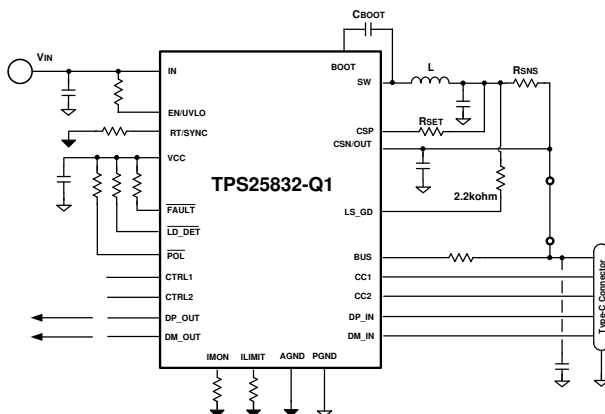
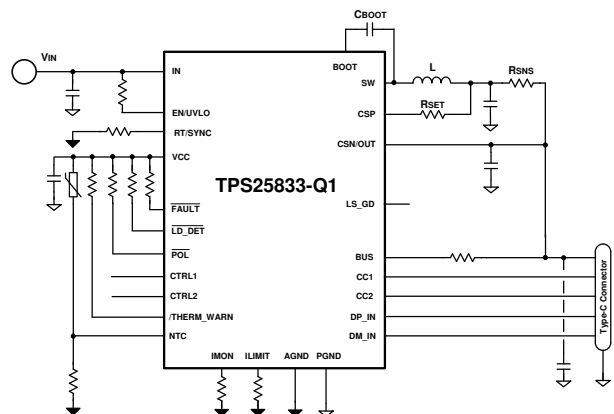

Figure 10-18. TPS25832-Q1 Buck Average Current Limit
Figure 10-19. TPS25833-Q1 Buck Average Current Limit
- Buck Average Current Limit Figure 10-18, Figure 10-19: